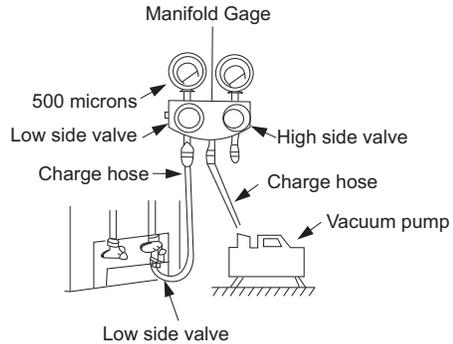

Fig. 20 – Manifold
3. Fully open the low side of the manifold gage (see Fig. 20).